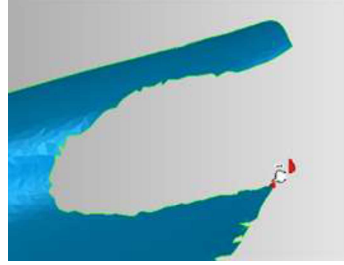

Figure 86
- As you hover near the corner of the cut-out, a red dot will appear as shown in **Figure 86**.